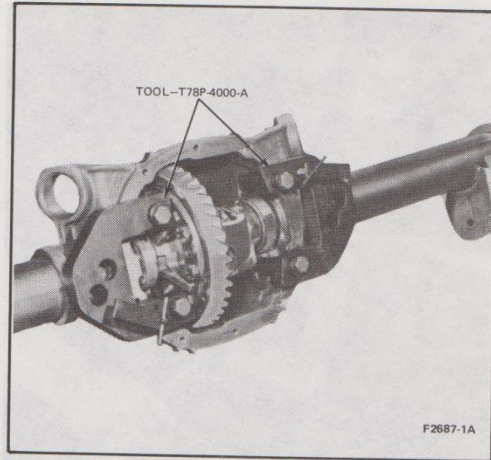

FIG. 16 Installation of Differential Carrier Spreader Adapters
10. Using a feeler gauge tool, select the thickest feeler blade that will enter between the gauge disc and the carrier bore ring gear side (LH), (Fig 16). The feeler gauge fit should be a slight drag-type feel. Record the feeler gauge reading.
11. Add .200 in. to the feeler gauge recorded reading. See example below. The left shim thickness is the total reading minus .008 in., then subtract the total of the .200 in. plus the feeler gauge reading in Step 11 from Step 4 and add .016 in. to obtain the thickness for the pinion gear side (RH) shim.
13. Remove the bearing caps—two (2).
15. Install the carrier spreader adapters T78-4000-A, or equivalent, and spreader tool T78P-4000-E, or equivalent, as shown in figures 16 and 17.